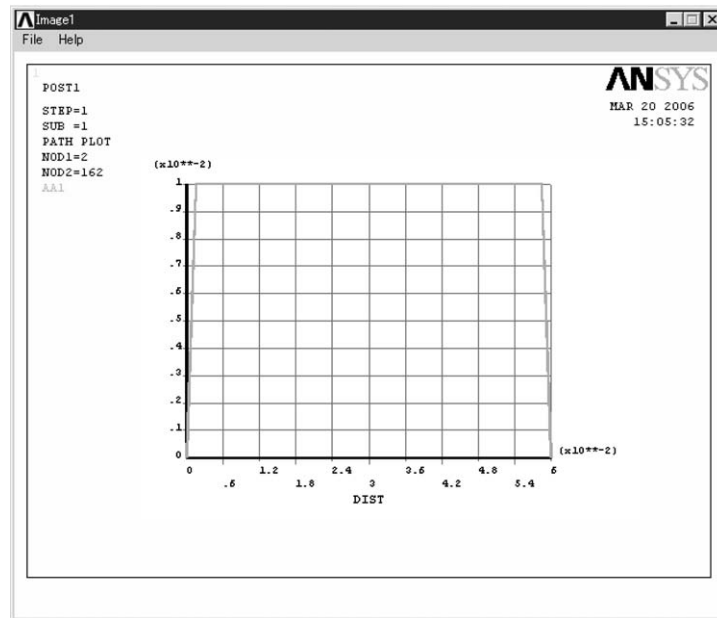

Figure 5.66 ANSYS Graphics window.
(1) Select **AA** in **Lab1-6** box and click **OK** button. Then the calculated result for the defined path **AA1** is displayed on **ANSYS Graphics** window as shown in Figure 5.66.